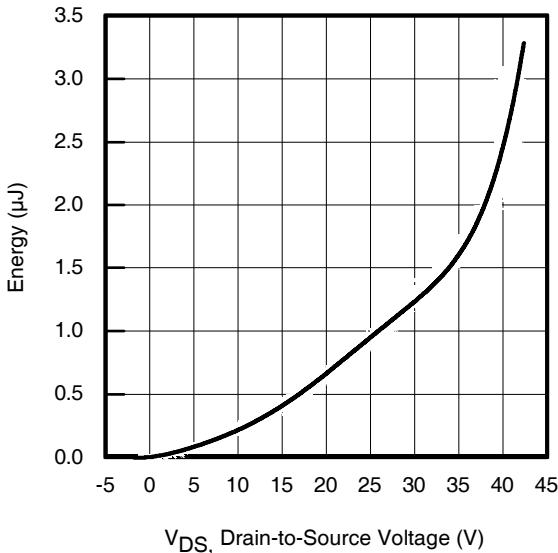

Fig 11. Typical C_{oss} Stored Energy
| $C_{oss \text{ eff. (ER)}}$ | Effective Output Capacitance (Energy Related) ⑦ | — | 2590 | — | pF | $V_{GS} = 0V, V_{DS} = 0V \text{ to } 32V$ ⑦, See Fig. 11 |